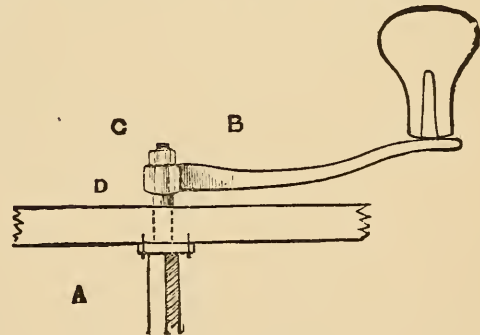

Fig. 3.
The spindle of the large iron wheel is made *round* at D, Fig. 3, where it works in the floor of the bench. That hole should be lined with soft leather, fitting the spindle like a glove, and kept well oiled. An iron plate (A) keeps the spindle in position. The spindle is, of course, *square* where the crank grips it at B, and a nut (C) screwed tight keeps the crank in position.